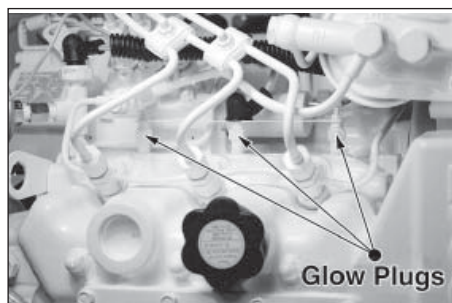

Figure 14: Glow plugs.
2. To check the glow plugs, loosen the current carrying flat wire between the plus-poles of the glow plugs (Figure 14). Connect a D.C. test bulb between the plus-pole of the battery and the plus-pole of the glow plug. If the bulb lights up, the glow plug is functioning properly.